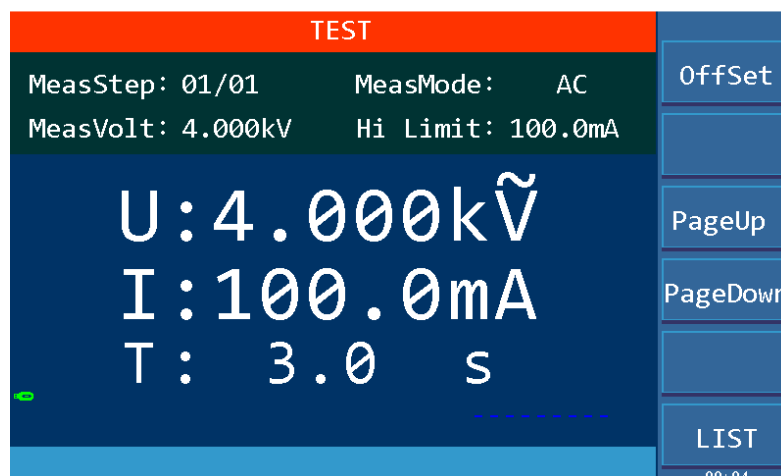
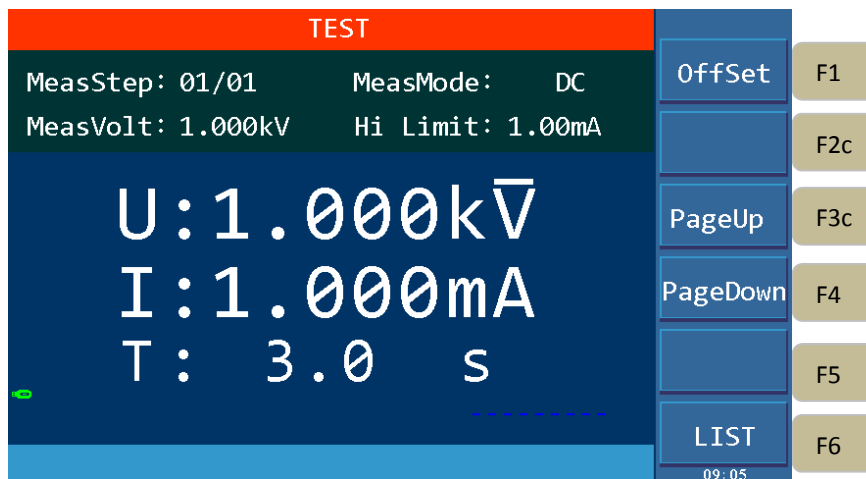
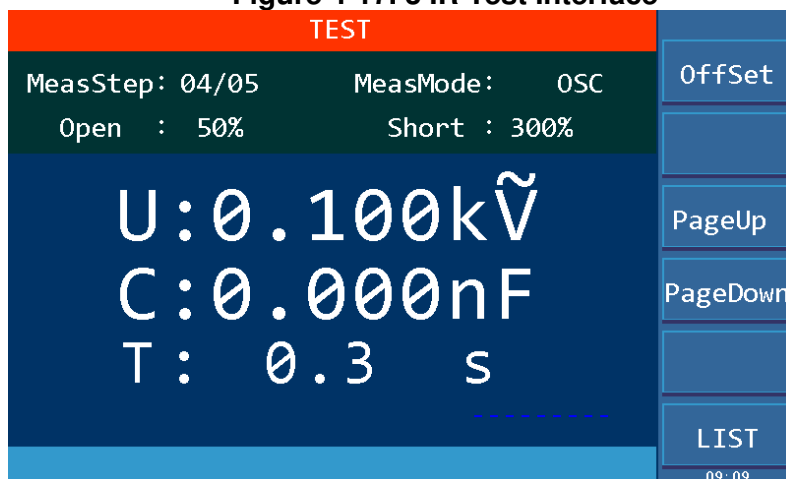
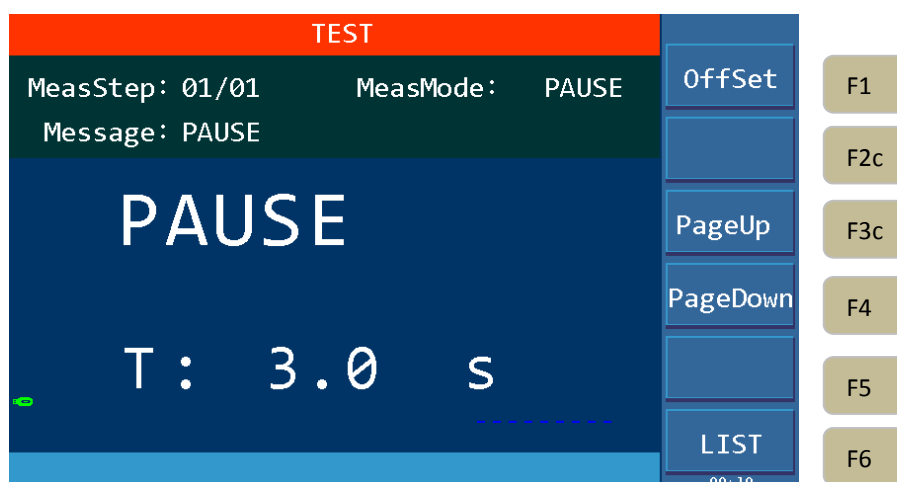

Figure 4-17.1 AC Test Interface
Figure 4-17.2 DC Test Interface
Figure 4-17.4 OSC Test Interface
Figure 4-17.5 PAUSE Mode Interface
1. Press **〔TEST〕** to enter the AC Test interface as shown in Figure 4-17.1.
2. Press F1 to offset. Press F3 and F4 key to display the main parameters of different test steps as shown in Figure 4-17.2, Figure 4-17.3, Figure 4-17.4 and Figure 4-17.5. F6 is LIST interface.
See Figure 4-17.1 ~ Figure 4-17.5 for details.